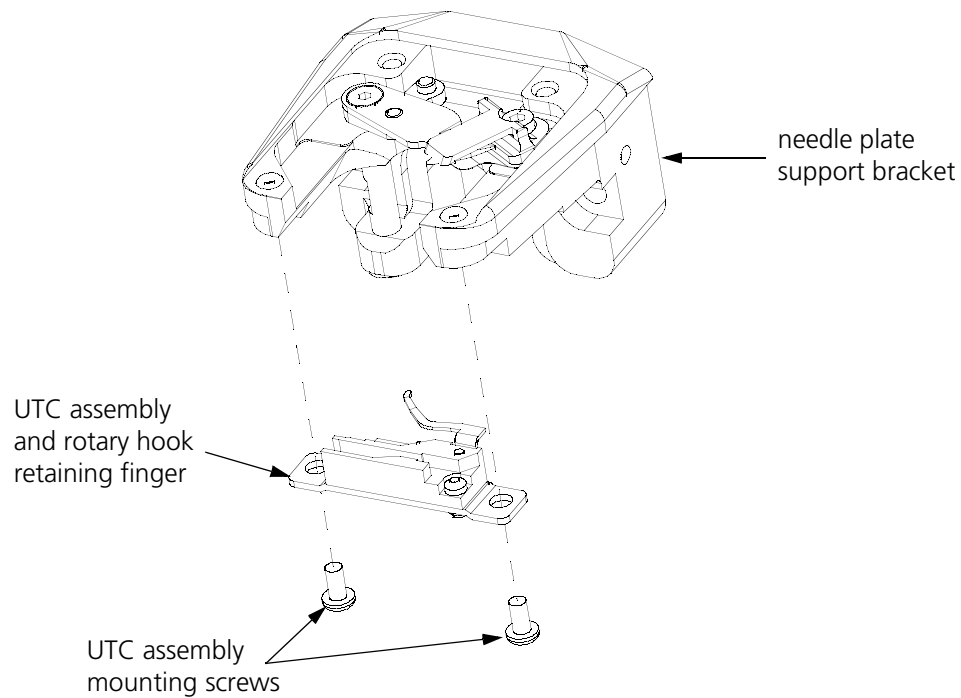

Figure 4-16
5. Remove the 2 UTC assembly mounting screws that hold the UTC assembly and rotary hook retaining finger to the bottom of the needle plate support bracket (see Figure 4-16).
9. Place the UTC assembly under the needle plate support bracket as shown in Figure 4-16 and install the 2 UTC assembly mounting screws.